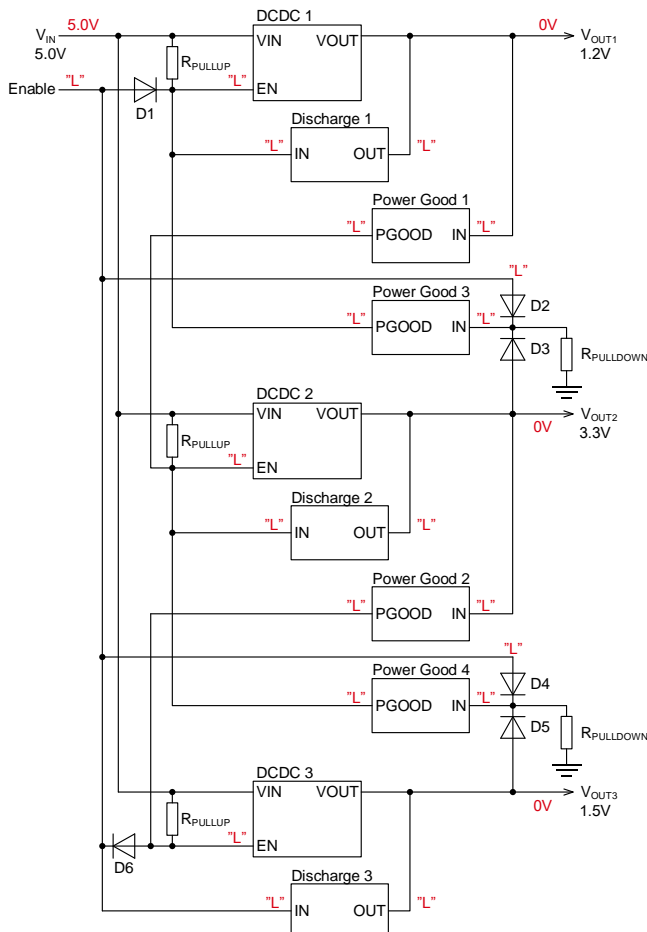

Figure 1-3. Control block diagram
Figure 1-3 shows the control block diagram. DCDC 1, DCDC 2, and DCDC 3 are the power supply ICs of 3 systems. Each output is controlled by the enable (EN) pin. Power Good 1 and 2 monitor the output voltage of the DCDCs when the power is turned ON, and output the “High” signal to the DCDC to be turned ON next when the output voltage reaches the target voltage. Power Good 3 and 4 monitor the output voltage of the DCDCs when the power is turned OFF, and output the “Low” signal to the DCDC to be turned OFF next when the output voltage reaches the target voltage. The Discharge blocks ensure the normal operation of the power supply sequence by rapidly discharging the electric charges stored in the output capacitor of the DCDCs to decrease the voltage when the power is turned OFF. Note that, in this block diagram, the logic is designed as Active High between EN and VOUT of the DCDC blocks, between IN and PGOOD of the Power Good blocks, and between IN and OUT of the Discharge blocks. In addition, the PGOOD pin (output) of the Power Good blocks and the OUT pin of the Discharge blocks are of the open-collector or open-drain type.